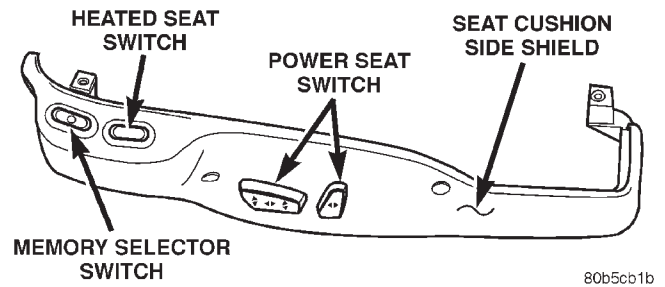

Fig. 4 Heated Seat Switch / Seat Cushion Side Shield Removal
(1) Disconnect and isolate the negative battery cable remote terminal from the remote battery post.
(2) Unscrew the side shield on the seat, either driver or passenger side (Fig. 4).